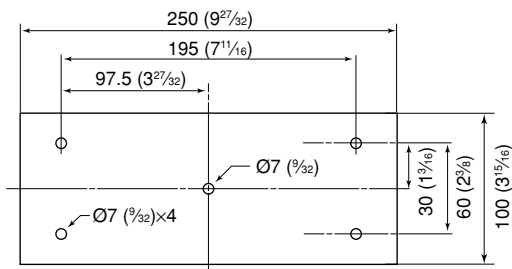

Fig. 1
- ① Hold the mounting bracket up to the selected location and mark pilot holes for the 5 installation holes using the template.
- ② Drill 5 holes of 3 mm (1/8 in) in diameter as shown in the diagram. (Fig. 1)